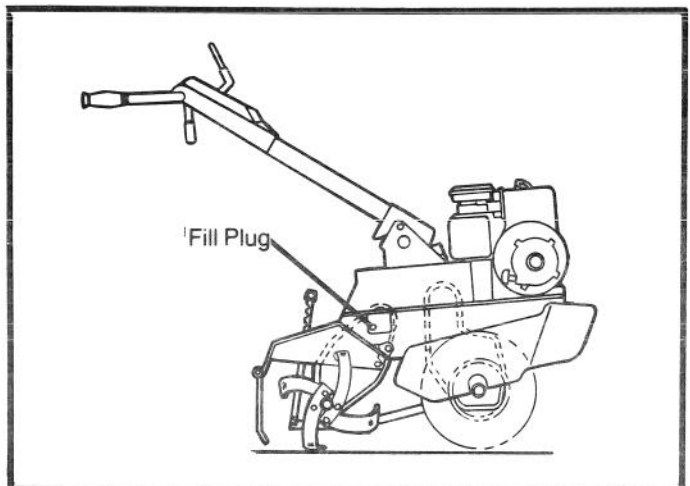

FIGURE 11B
2. Place tiller on a level surface so that the tines and the wheels are setting on the ground, Fig. 11B.
4. If oil isn't up to bottom of hole, Fig. 11B, fill slowly with (EP) SAE 140 heavy-duty oil until proper level is reached. Replace oil level plug and oil fill plug. Wipe off excess oil.